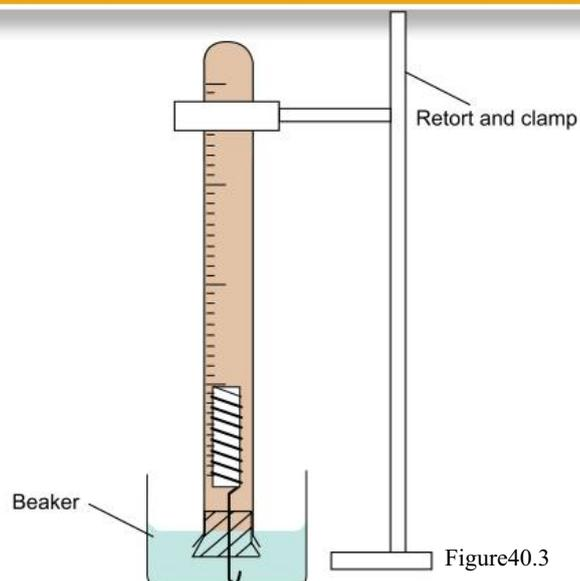

Figure 40.3
6. Cover the hole with a finger, invert the gas measuring tube and place it in the beaker as shown in Figure 40.3. Clamp the tube in place. The acid, being more dense than water, will move down through the water and start to react with the magnesium.